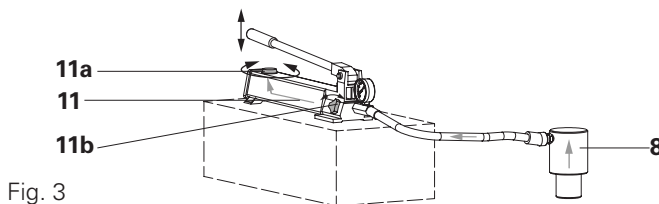

Fig. 3
(Fig. 3)
1. The cylinder (8) must be fully retracted.
2. Open the vent and filler cap (11a) on the oil tank of the hand pump. (Fig. 3)
3. Tilt the hand pump (11).